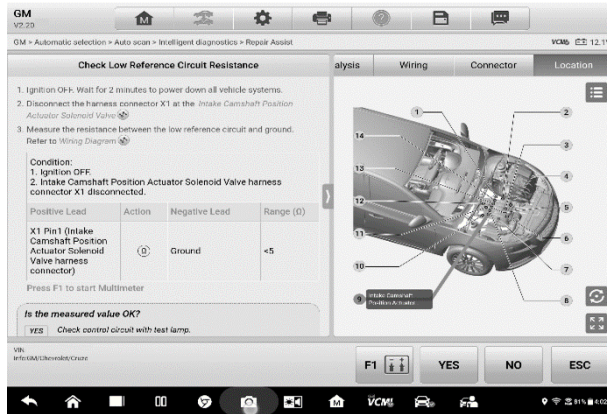

Figure 5-24 Sample Repair Assist Screen 5
- In some cases, it is necessary to check the circuits. Take **Figure 5-24** for example, tap the first **Link icon**  to open the *Location Diagram*, and it will show the location of the component *Intake Camshaft Position Actuator Solenoid Valve* in the car.